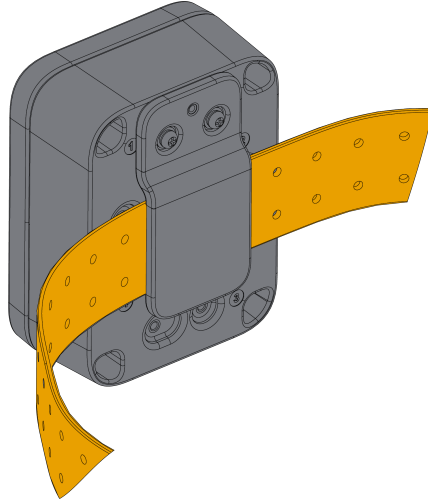

Figure 21: Fixing the enclosure on the belt clip
3. Lastly, clip the unify enclosure on the belt directly as shown in **Figure 21**.